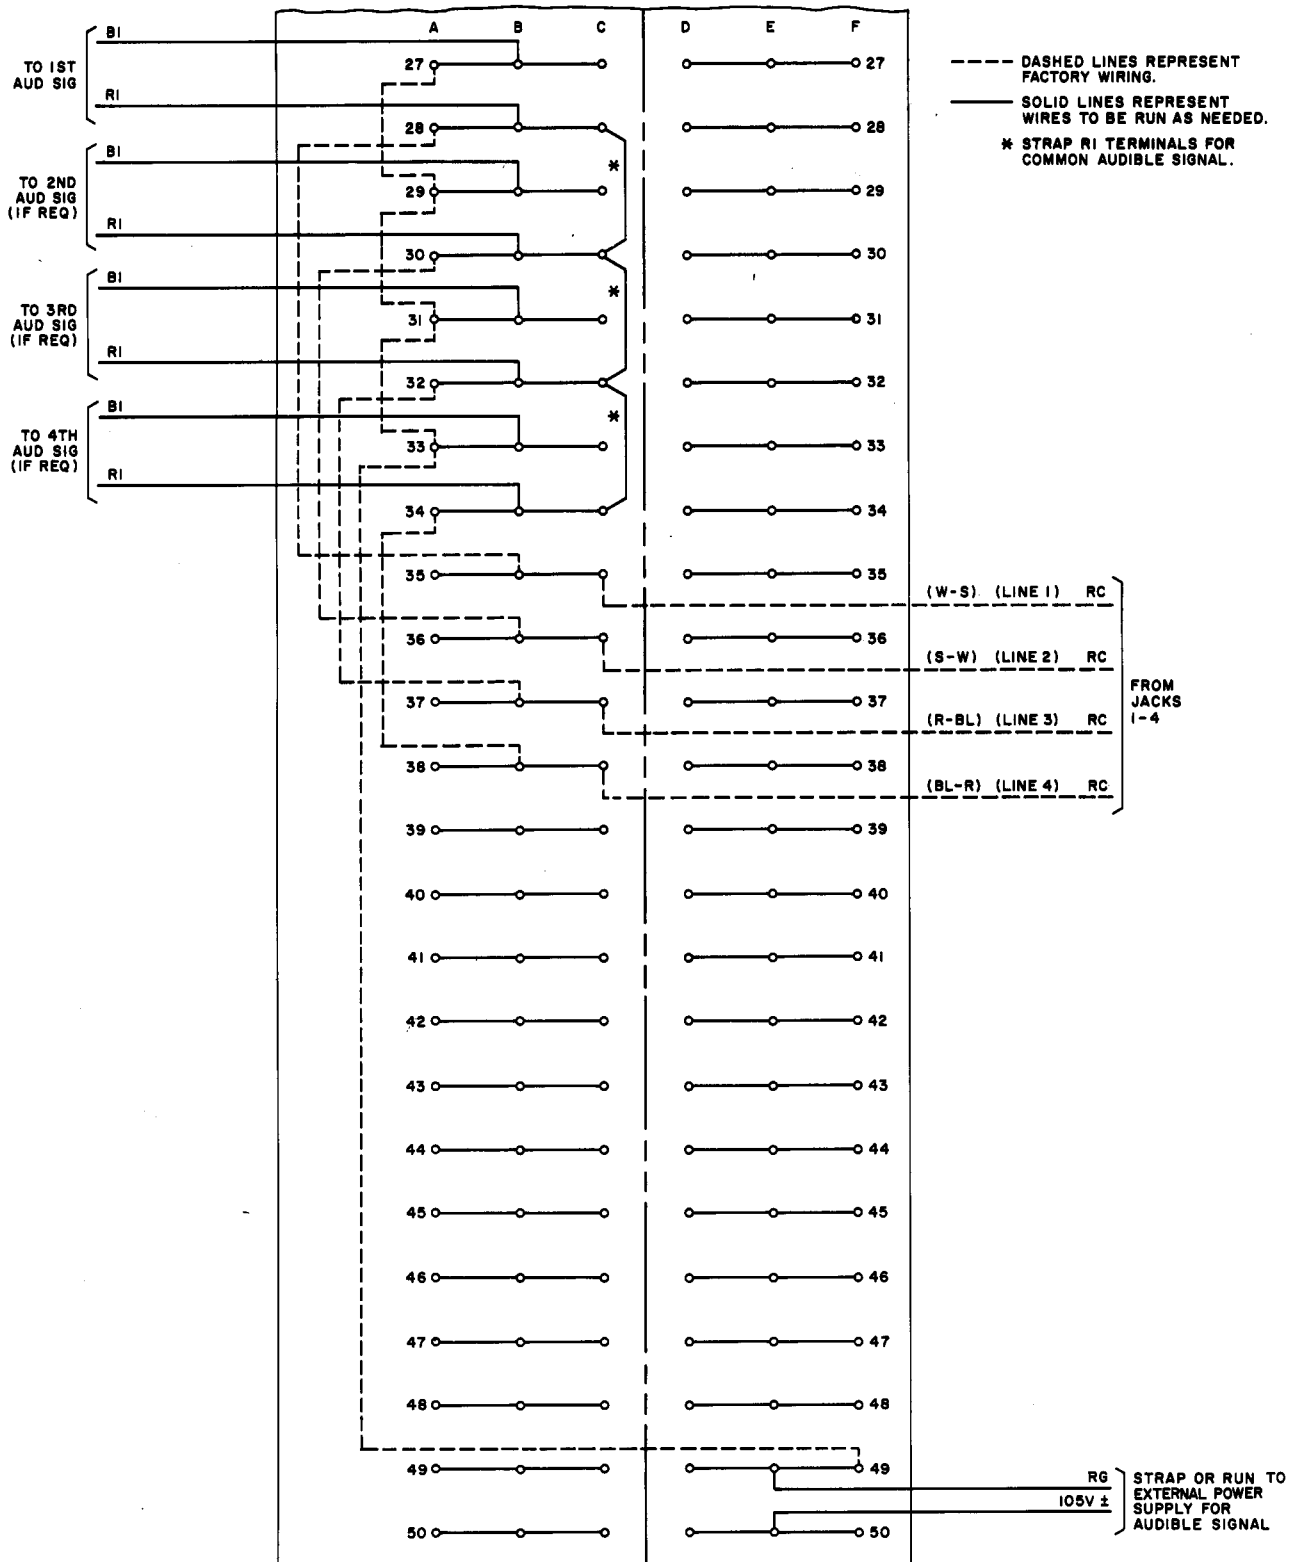

Fig. 4—Connections to Provide Individual or Common Audible Control
2.07 Fig. 4 and 5 show connections for optional audible signaling arrangements which are obtained by strapping terminals on the connecting block.